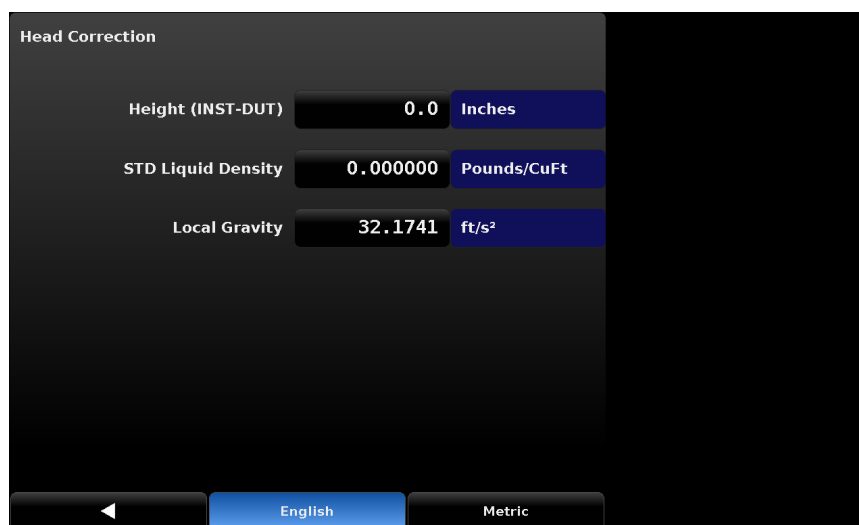

Figure 6.4.2.5.4 Head Correction
Touching any of the active buttons in this screen will activate the number key pad. Each of the four rows in figure 6.4.2.5.4 represent a different parameter in the head correction calculation. In the [Height (INST-DUT)] row, the level of the Device Under Test (DUT) should be subtracted from the instrument reference point (INST) and entered. The (INST) level should be measured from the middle of the Measure/Control DUT port on the rear of the instrument. The gas density used within the calibration system, the gas temperature, and the local gravity should be entered in the subsequent fields. The default height is zero (0) indicating that there is no head correction applied. [English] or [Metric] units can be chosen by pressing the related button.